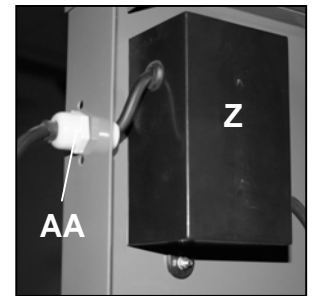

Figure 14
Attach the switch cover (Z) to the steel cabinet with nuts, bolts and washers, and tighten the cable bushing (AA) by hand. (Figure 14)